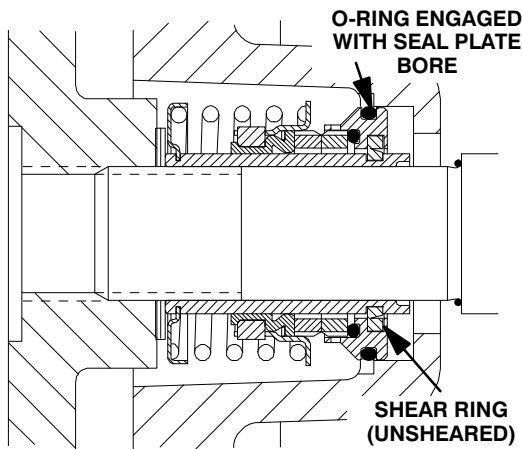

Figure 6. Seal Partially Installed
Clean and inspect the impeller as described in **Impeller Installation and Adjustment**. Install the full set of impeller shims (2) provided with the seal, and screw the impeller onto the shaft until it is seated against the seal (see Figure 6).